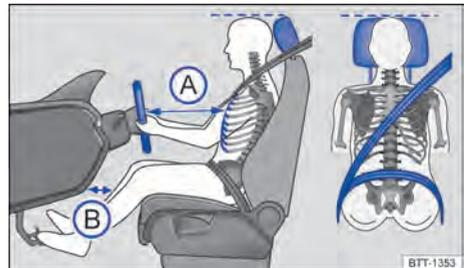

Fig. 19 Correct distance between the driver and the steering wheel, correct seatbelt position and correct headrest adjustment.
- Adjust the seat so that the distance between the steering wheel and the driver's chest is of at least 25 cm → Fig. 19 (A) and so the driver can firmly hold the steering wheel by its outer rim with both hands and with slightly flexed arms.
- Adjust the driver's seat lengthwise so that the pedals may be reached with slightly flexed legs and so that the distance between the knees and the dashboard is at least 10 cm → Fig. 19 (B).
- Adjust the head rest so its top edge is at the same height as the top of the head → Fig. 19 – but not below eye level. Position the back of your head as close to the head restraint as possible.